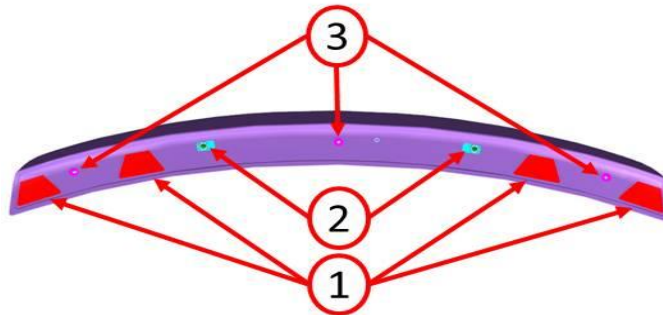

Fig. 1 Spoiler Modification
2. Clean the mounting surface on the underside of the spoiler at the red tape locations (1) with isopropyl alcohol (Fig. 1).
4. Install four pieces of double sided spoiler tape (1) part number 68213235AA to the locations in red (Fig. 1).
5. Remove the red liner from the tape and align the spoiler to the deck lid with the two attachment stud clips (2) and spoiler molded studs (3) (Fig. 1).
6. Press the spoiler to the deck lid at all four tape locations (1) (Fig. 1).